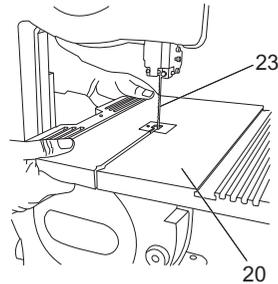

Fig. 2
- > Carefully slide the work table (20) over the saw blade (23), through the slot in the work table (20). Please note that the saw blade (23) is positioned in the center of the table. (Fig. 2)